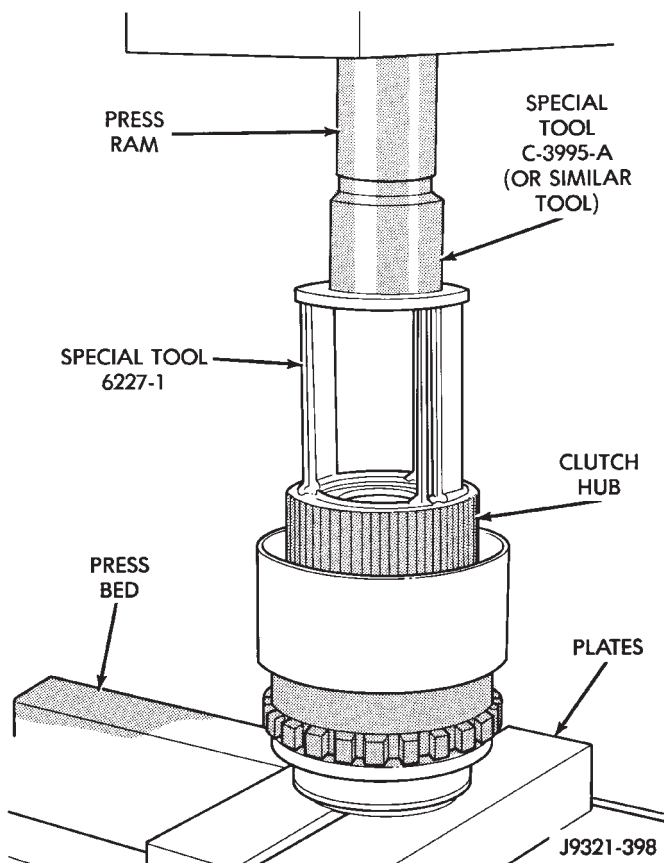

Fig. 206 Geartrain Mounted In Shop Press
(1) Mount geartrain assembly in shop press (Fig. 206).
(2) Position Compressor Tool 6227-1 on clutch hub (Fig. 206). Support output shaft flange with steel press plates as shown and center assembly under press ram.
(3) Apply press pressure slowly. Compress hub and spring far enough to expose clutch hub retaining ring and relieve spring pressure on clutch pack snap ring (Fig. 206).